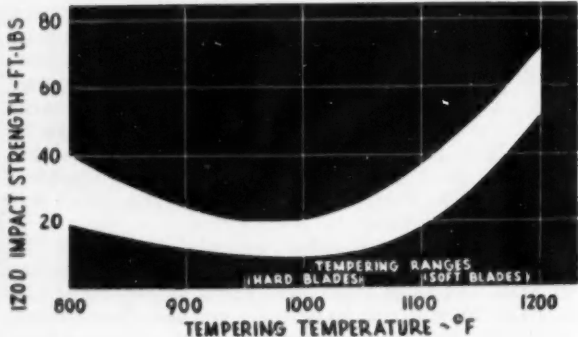

Fig. 5—Impact strength is better for softer blades.
2. Impact Strength—The higher tempering temperature applied to make the blades softer correlates with better impact strength, as Fig. 5 shows. (These tests were made at room temperature, but values would be the same for the 400–450 F maximum compressor operating temperatures.)